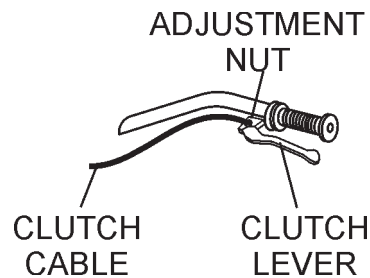

Figure 48. Hand Clutch Adjustment
2. Trowels manufactured prior to June of 1982 require that the distance from the end of the adjusting bolt and the fixture arm must be 7/8" (Figure 48). Conversely, trowels manufactured after June of 1982 require that the distance from the end of the adjusting bolt and the fixture arm must be 1/2".
3. Un-screw the locking bolts on the adjustment tool, and place the trowel arm into the adjustment fixture channel as shown in Figure 48. A *thin shim* may be required to cover the blade holes on the trowel arm. Make sure to align the trowel adjustment bolt with the fixture adjustment bolt.
The easiest and most simple adjustment is to adjust the clutch cable housing using the adjustment nut (Figure 48) located on the clutch lever. Rotating the nut provides either more or less (depending upon the direction of rotation) clutch engagement.